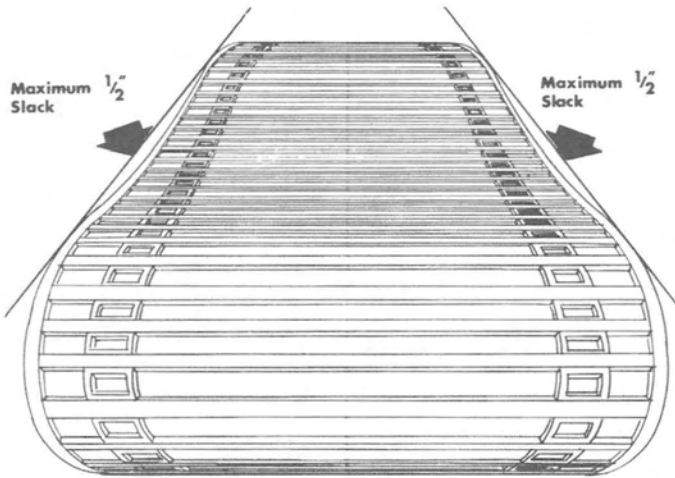

Figure 1. Track Tension
Check track tension and alignment after first 3 to 5 hours of operation and every 25 hours of operation thereafter. Tension is correct when a maximum slack of 1/2" (12.7mm) is obtained. Slack **MUST** be measured at center of track when snowmobile is at rest with track supporting weight of snowmobile. (Figure 1) If necessary, adjust as follows:
1. Loosen nuts ("A" and "B" in Figure 2) and adjust tension screws ("C" in Figure 2) equally on both sides of the chassis until correct tension has been acquired, as shown in Figure 1.